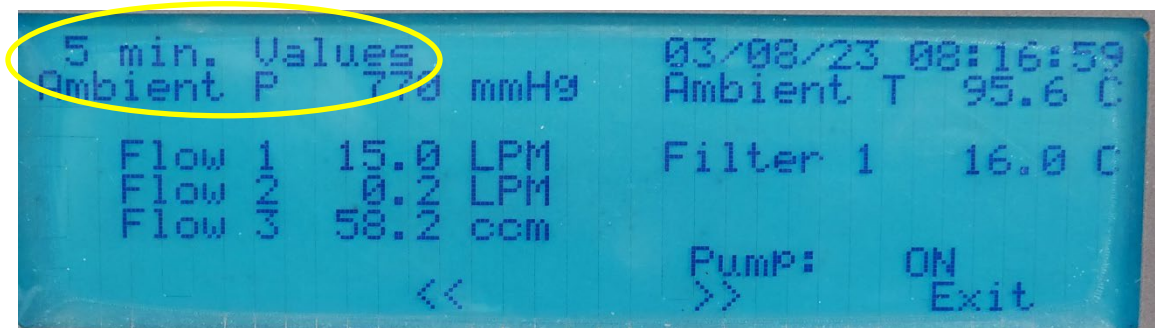

Figure 30: End flow.
- 3.6.3 If by mistake the pump was turned off, by using the ">>" key, find the screen for 5-minute values within the first couple of minutes and record the flows from the 5-minute values. Otherwise, the record will get to zero. Record the flow shown for each channel as the **End Flow** on the field data sheet (Figure 30).